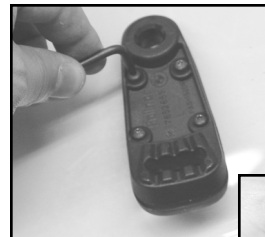

Figure 3
4. To avoid damage, place the windshield on a flat protective work surface and remove the 4 small screws holding the inside face plate (T-10 Wrench). Do both sides. Note the "R" and "L" designations on the plates. Plates will be installed to the new windshield in the same positions. **Figure 3.**